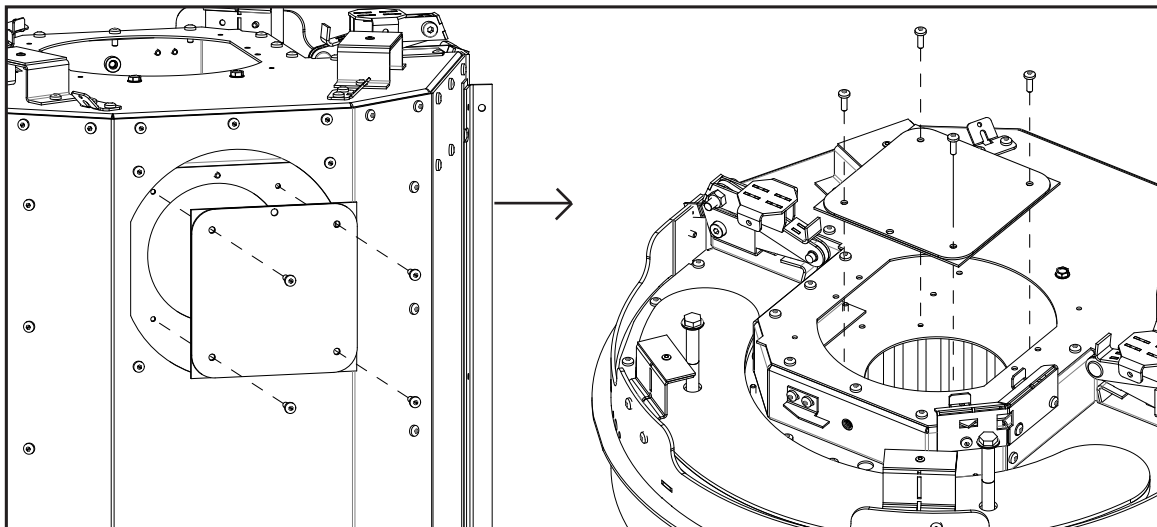

Figure 70: Inner Block-Off Plate Removal and Attachment
9. Remove the outer and inner block-off plates from the back of the unit and attach them to the top of the unit where the exhaust spigot and vent collar were attached (see Figure 70).